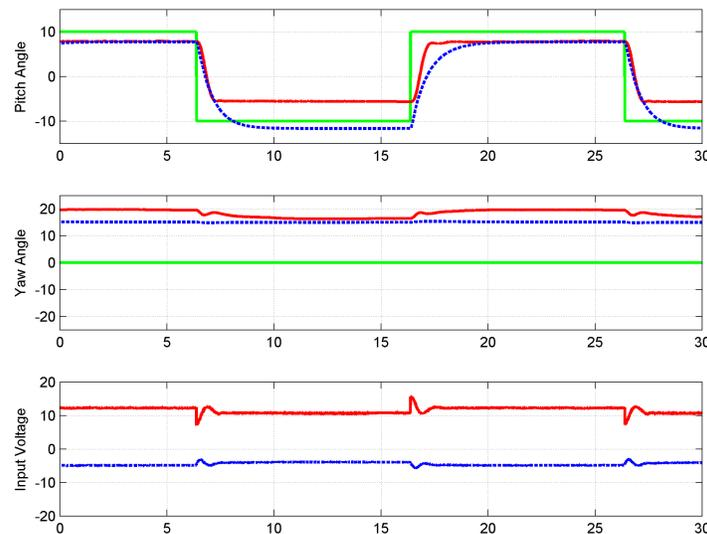

Figure 5.16: Closed-loop LQR response under pitch reference step
13. Open the *theta (deg)*, *psi (deg)*, and *Vm_actual (V)* scopes in the *Scopes* folder. In the *theta (deg)* scope, the desired pitch position is the yellow line, the measured pitch position is the purple plot, and the simulated pitch position is light blue trace. Similarly in the yaw scope, *psi (deg)*, yellow is the desired yaw, purple is the measured yaw, and light blue is the simulated yaw. The *Vm_actual (V)* scope plots the voltage being applied to the pitch motor in yellow and yaw motor in purple.
14. Figure 5.16 depicts the typical measured and simulated pitch and yaw response under a desired step pitch angle. The measured response is the solid red line, the simulation is the dashed blue line, and the reference is the solid green line. Notice in both the measured and simulated responses the pitch angle has a steady-state error.